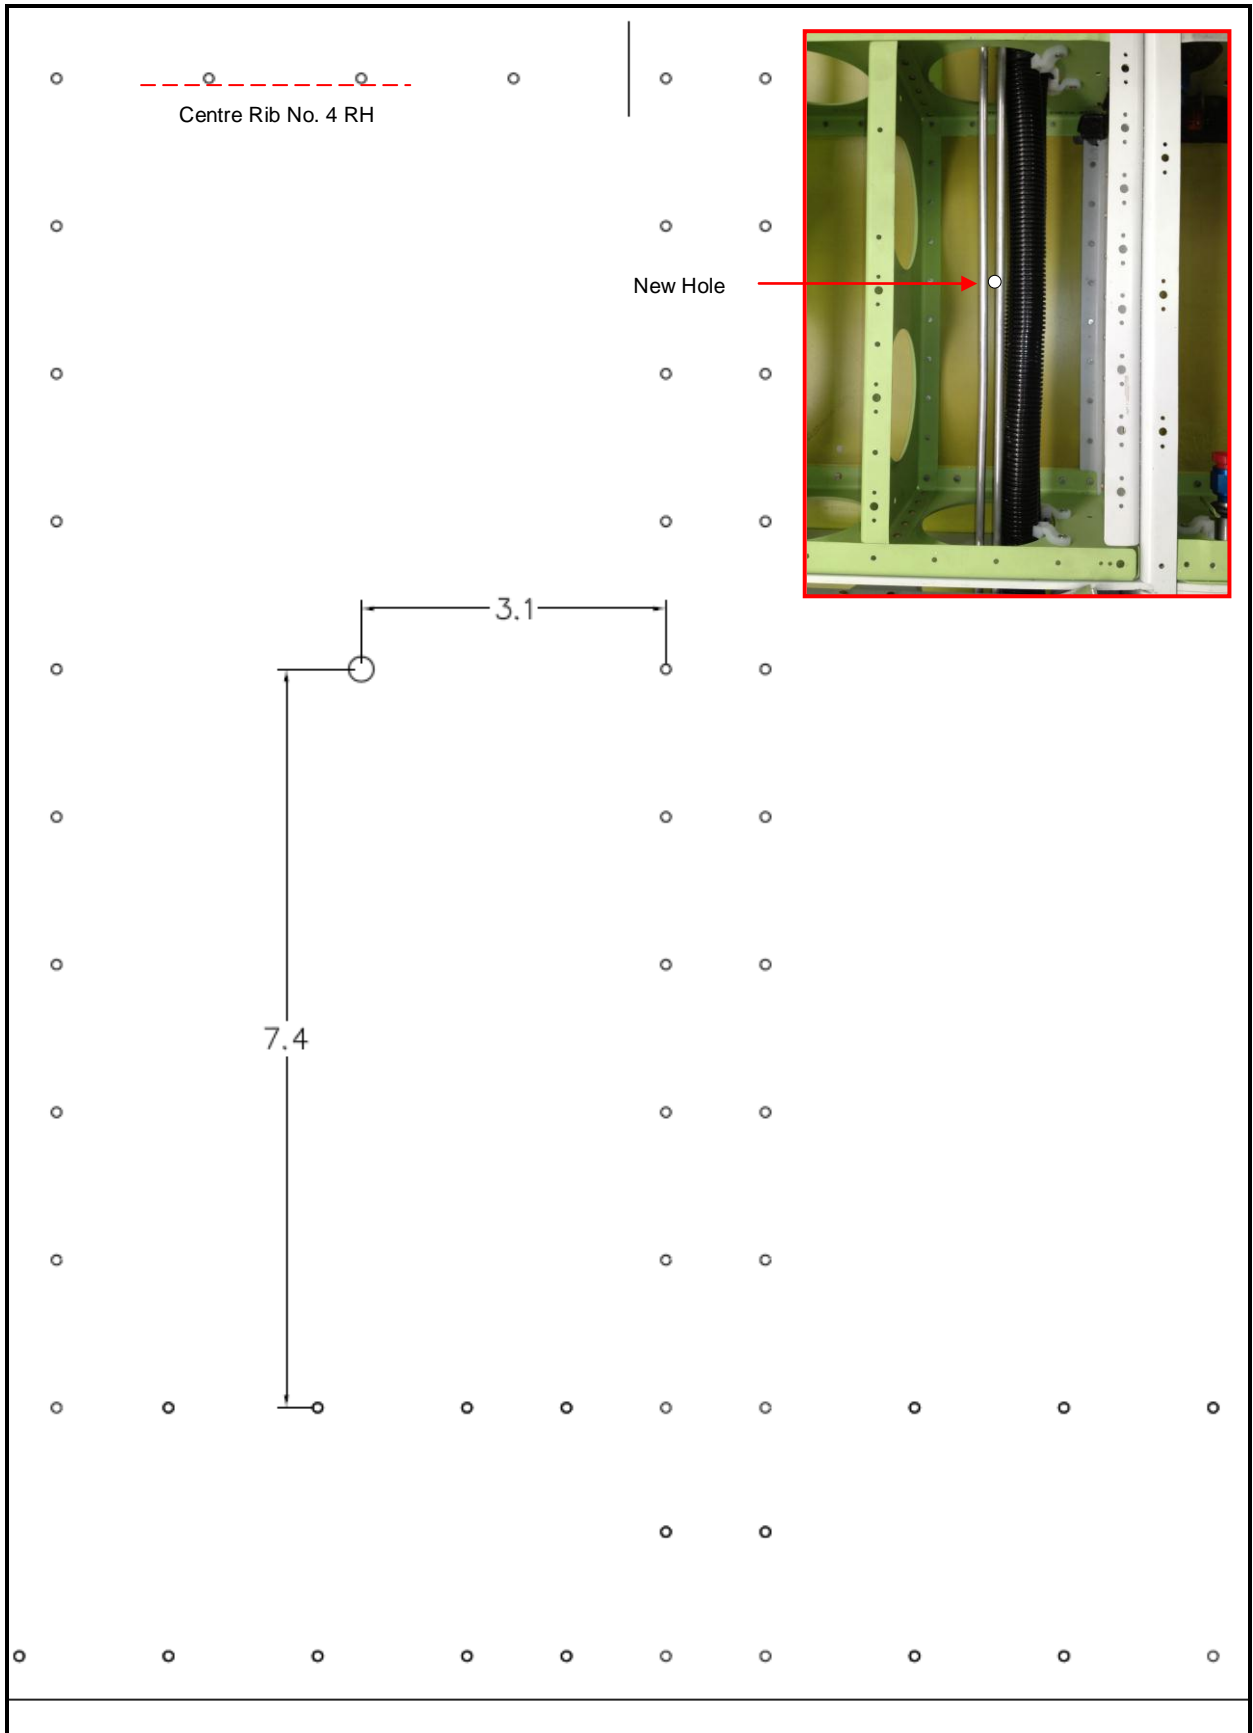

Figure 8: Hole 6 (Belly skin shown from above for clarity, DO NOT REMOVE FLOOR SKIN)
13. Drill ¼ in. hole through bottom skin located inboard of sump tank, between centre rib no. 4 (GA8-532023-125) and centre rib no. 5 (GA8-532013-127), Figure 8.